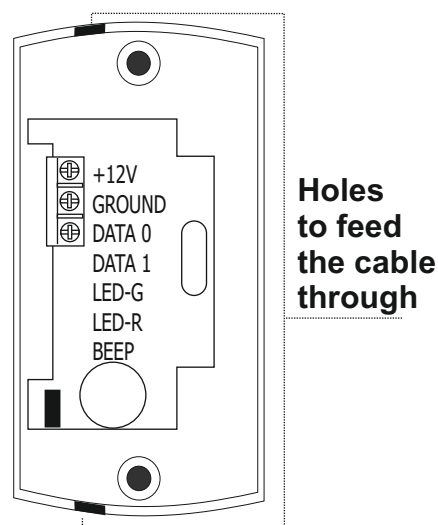

Fig. 2
- Remove a thin tab in the reader case from the side where the reader connecting cable must come out, and feed the cable through the resulting hole (Fig. 2);